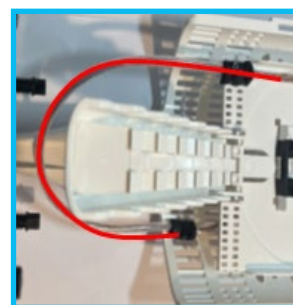

Figure 43
2. Install 320mm of spiral wrap over the fibres and route to the top tray (6). Pass the fibres behind the splice tray spine (figure 43).